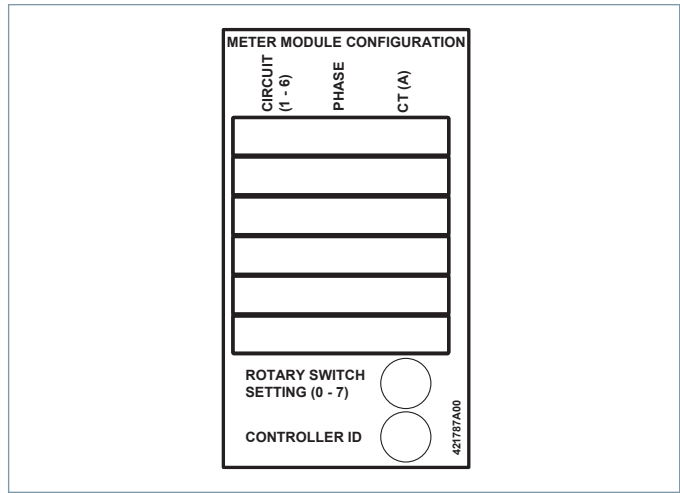

Figure 1: Meter Module Configuration Label
**TIP:** It is suggested to determine the network layout and meter module address plan PRIOR to installing bus plugs on the busway. A meter module configuration label (Figure 1) is provided on the cover of each bus plug for recording network and addressing information. Additionally, a plexiglass view port covers all meter modules allowing for the user to view meter module phasing and rack addressing. This view port also allows racks to be re-addressed without opening the front cover of the bus plug. See Section 7.3 for meter addressing.